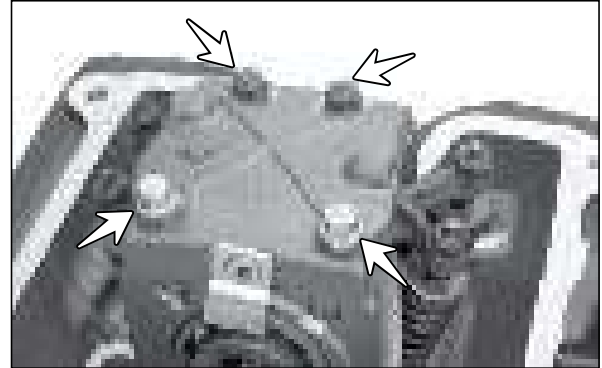

Fig. 3.50
- Remove hexagonal flange bolt (M6x25 - 4 Nos.) from the mounting of cylinder head assembly. (Fig.3.50)